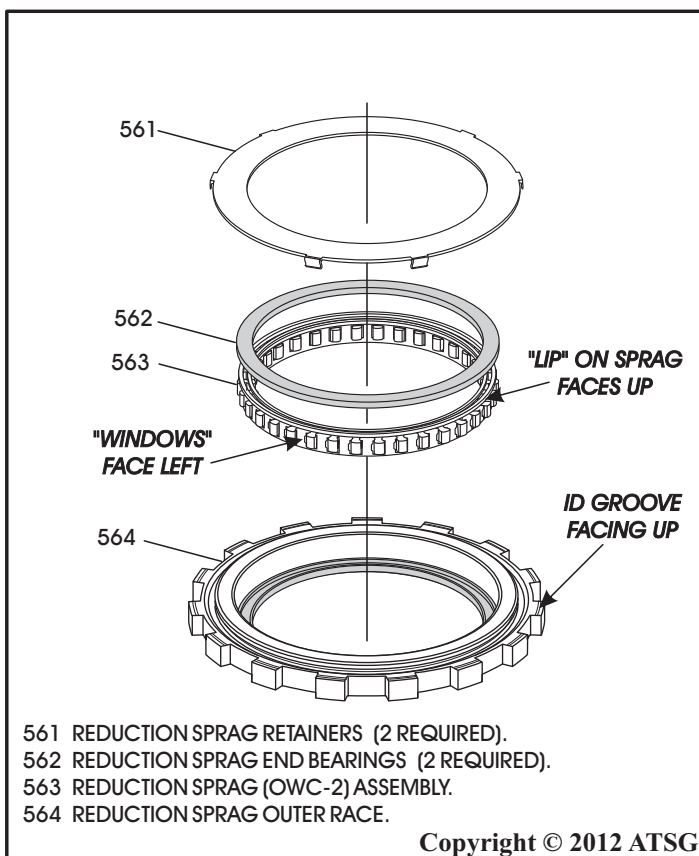

Figure 103
14. Install the reduction sprag assembly into the outer race, as shown in Figure 103, with the "lip" on sprag cage facing up.
Note: The reduction sprag cage has no arrows on it to help with direction of installation. The "lip" must face up and the "windows" to the left, with the ID groove on the outer race also facing up, as shown in Figure 103.
15. Install the second reduction sprag end bearing, as shown in Figure 103, with the smooth side facing up.
16. Install the second reduction sprag retainer by snapping it over the lip on the outer race, as shown in Figure 103.